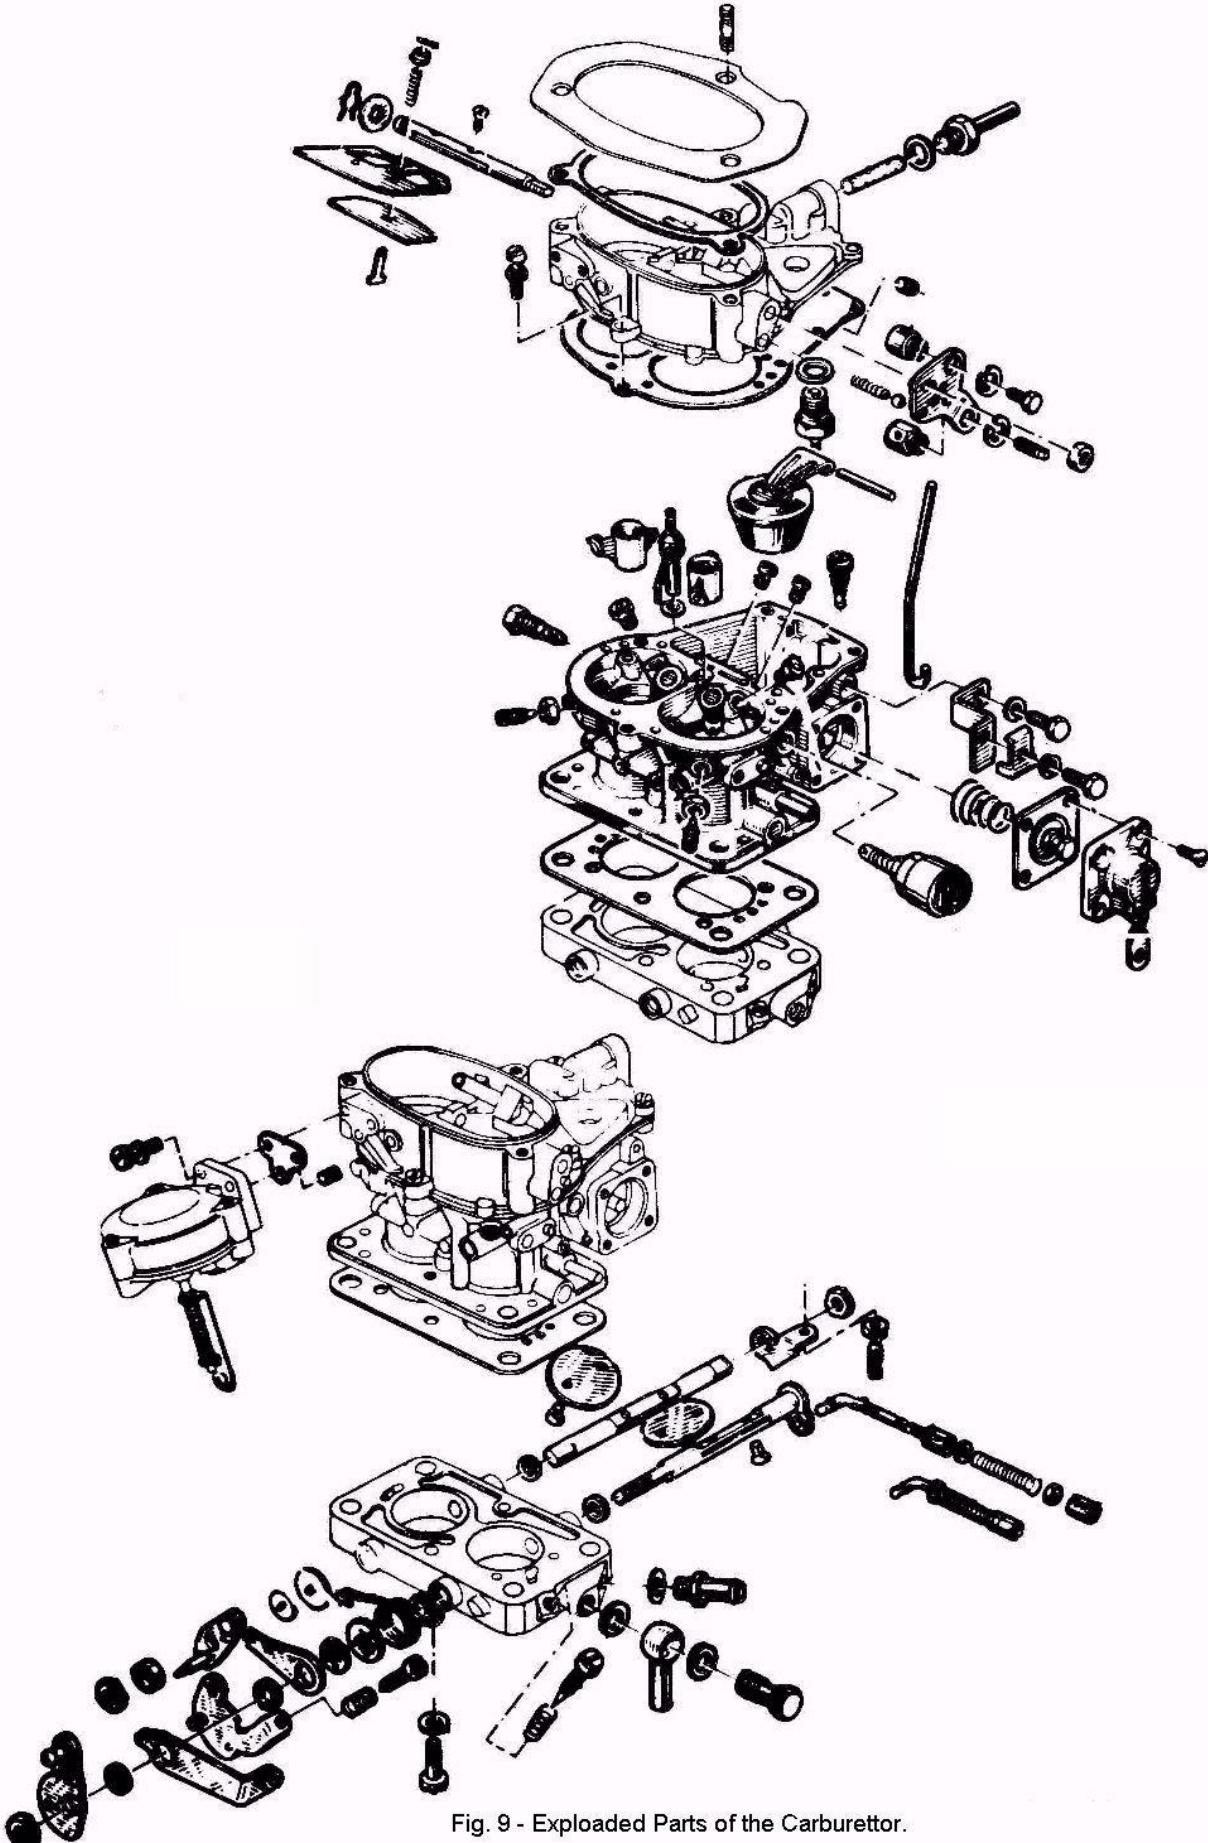

Fig. 9 - Exploded Parts of the Carburettor.
- 2 - Assemble the secondary throttle plate into the slot in the spindle. The two fixing screws should be fitted, heads downward with the plate in the closed position, and the roller lever should lie at approx. 45° to the horizontal (See Fig. 9)
12 - With the primary throttle plate in the closed position the flats of the spindle should be at approx. 45° to the horizontal i.e.; in-line with the secondary roller lever (see Fig.9).